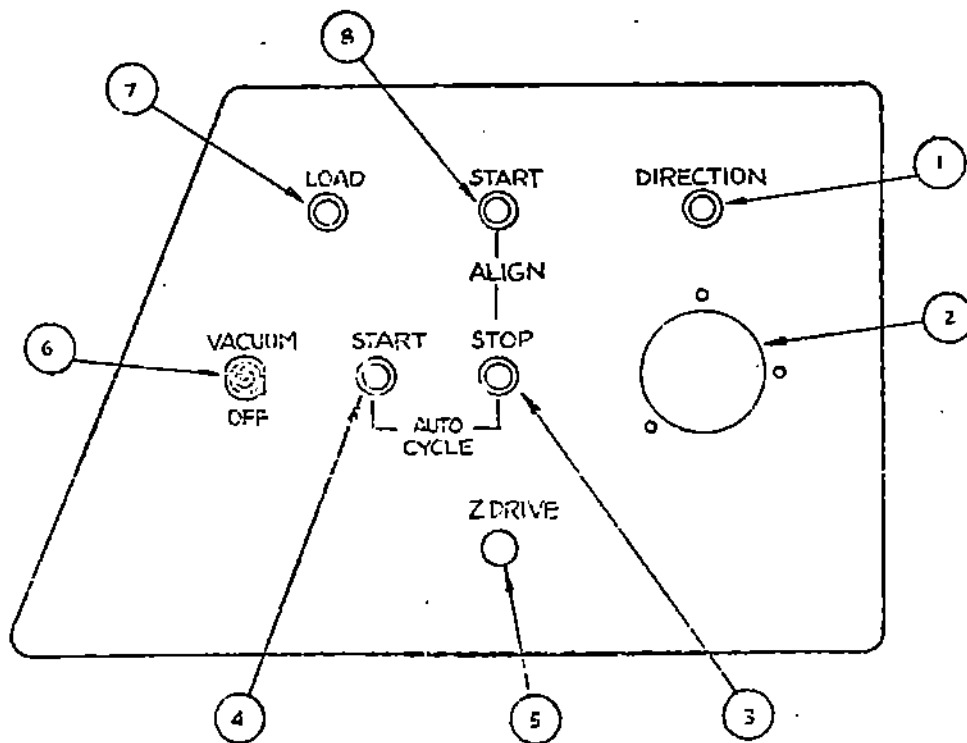

Figure 3-2. Operator Control Panel
(1) ENGLISH/METRIC	A two-position toggle switch used to set the system in English or Metric mode. (System must be re-aligned if mode is changed.)
(2) PROGRAM DELAY	A single-decade digit switch which controls the number of X index steps beyond the edge of the wafer during automatic cycling.
(3) TEST START	A pushbutton switch which, when actuated, delivers a start-test signal to the external tester interface channels.
(4) TEST/DEMO	A two-position toggle switch. "Test" is normal operation with external tester connected. "Demo" is used in servicing the machine since, in this position, external interface signals are inhibited or ignored, allowing the prober to cycle automatically in a demonstration mode.
(5) VIEWING OPTICS ON/OFF	A three-position toggle switch. During manual operation, it controls 115V AC 60 Hz power to connector J7, normally used for the microscope illuminator. During automatic operation, connector J7 is disabled. This control is normally in auto position. OFF = Off ON = On in Auto or Manual AUTO = Goes off in Auto
(6) AUTO UNLOAD ON/MANUAL	A two-position toggle switch. In AUTO CYCLE operation, this switch, set at AUTO UNLOAD ON, closes a circuit which responds to a wafer-test complete signal, causing the positioner to move to the load station. In the MANUAL position, the wafer-test complete signal causes the positioner to stop moving, requiring actuation of the LOAD control pushbutton on the Operator's Panel (Figure 3-2)
The Operator Control Panel (Figure 3-2) is mounted on the righthand side of the Prober System and contains the controls used to control system operation. Table 3-2 describes the Operator Control Panel controls.
The Interface Connector Panel contains one operator-controlled pushbutton switch, REALIGN. This switch, when actuated, interrupts power to the positioner and resets counters in the control logic, facilitating alignment of the positioner with the platen. Power is restored to the positioner by pressing the STOP pushbutton on the Operator Control Panel (Figure 3-2, Table 3-2).